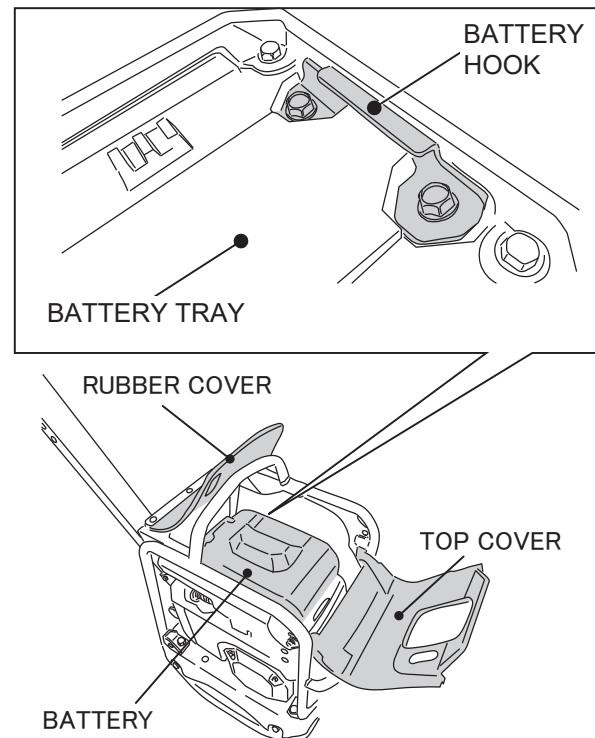

Figure 5. Battery Tray
1. Make sure there are no debris or dirt on the battery tray (Figure 5).